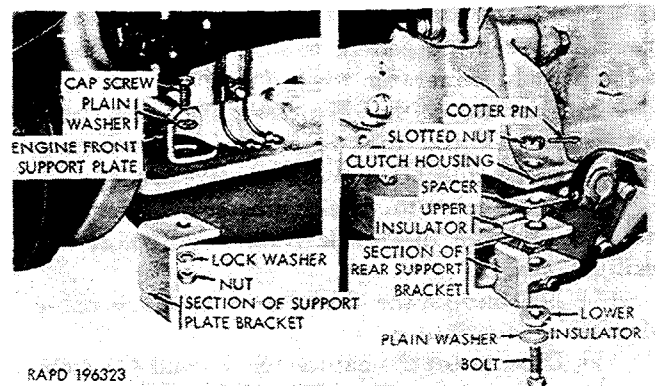
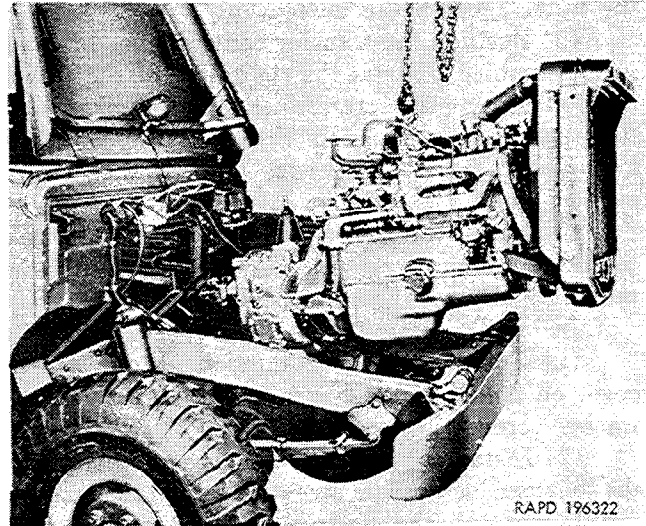

Figure 2-97. Engine mounting parts—exploded view.
Figure 2-98. Removing or installing engine.
(1) Each engine is supplied with an engine eyebolt. Place hook of chain in eyebolt and raise the engine enough to place a small amount of strain on the chain.
(2) At this point, check to be sure that all disconnect operations have been completed. Raise the power plant slowly, using a number of short lifts, until radiator, oil pan, and transmission are clear of crossmember. Check again to see that all lines and accessories are clear as power plant is being removed upward and forward.
(3) Remove the upper insulator and spacer from each of the engine rear support brackets (fig. 2-97). Discard the insulator.
(1) Install a new upper-exhaust-pipe-to-lower-exhaust-pipe gasket on the lower exhaust pipe flange.
(2) Assemble a new upper insulator on each spacer (fig. 2-97). Install the assembled parts on each engine rear support bracket.
(3) Position the correct number of plain washers on the radiator support bracket. Refer to paragraph 2-75 j (2) above.
(4) Make certain the generator-to-regulator cable and the carburetor and shutoff valve controls are properly located to prevent interference with engine installation.
(5) Install the engine (fig. 2-98) making certain that the spacers, insulators, and plain washers remain in correct alinement with their respective holes.
(1) Remove the drifts from the engine and support brackets. Install a washer on the engine rear support bolt, followed by a new lower insulator (fig. 2-97). Install the engine rear support bolt from the underside of the rear support bracket and install the washer and slotted nut (fig. 2-97). Tighten the nut enough to hold the parts.
(2) Install a plain washer on the capscrew. Install the capscrew through the front support plate and front support plate bracket. Install the lockwasher and nut (fig. 2-97). Tighten the nut enough to hold the parts.
(3) Connect the upper exhaust pipe (P) to the lower exhaust pipe by engaging the two eyebolts. Do not tighten the eyebolt nuts at this time.
(4) On engines equipped with a priming system, connect the priming system line (R) to the tee type nozzle (Q) in the intake manifold rear port.
(5) Connect the flexible line from the fuel pump to the fuel line shut off cock (H) and open the shutoff cock.
(6) Attach the throttle return spring extension (M) to the cowl.
(7) Install the windshield wiper hose (A) on the fuel pump vacuum line (S).
(8) Connect the crankcase ventilation shutoff valve controls (B). Adjust the controls (para 2-72 c).
(9) Connect the choke control (D) and throttle